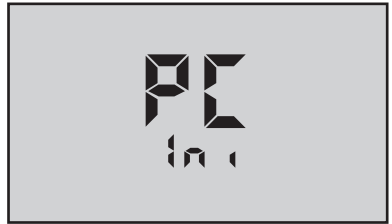

Figure 32
**NOTE.** “PC Ini” may momentarily be displayed while initializing, (see Figure 32).